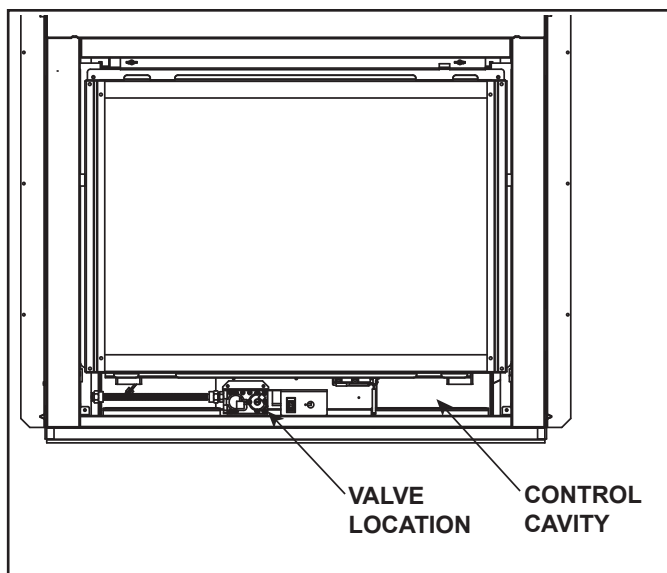

Figure 3.4 Control Cavity/Valve Location
The ECLIPSE-32 and ECLIPSE-36 models have a variable burn rate which is controlled by the HI/LO knob on the gas valve. Therefore the flame height is adjustable. The HI/LO knob is shown in Figure 3.4. It is located in the control cavity of the appliance. The HI/LO knob may be adjusted as desired by turning counterclockwise to the HIGH position and by turning clockwise to the LO position.
The IntelliFire intermittent pilot ignition system comes with a battery backup system that enables the system to operate in a power outage. A factory-installed battery pack is located in the control cavity of the appliance. See Figure 3.4. Batteries should not be placed in the battery tray while using electrical power to operate the fireplace. Remove batteries from battery tray when power has been restored.
1. Access the control cavity of the appliance. See Figure 3.4 for location. The decorative front or door may need to be removed.
2. Locate the battery tray in the control cavity and insert two D cell batteries. Battery polarity must be correct or module damage will occur. See Figure 3.4. A complete wiring diagram is included in the Electrical section of the appliance Installation Manual.